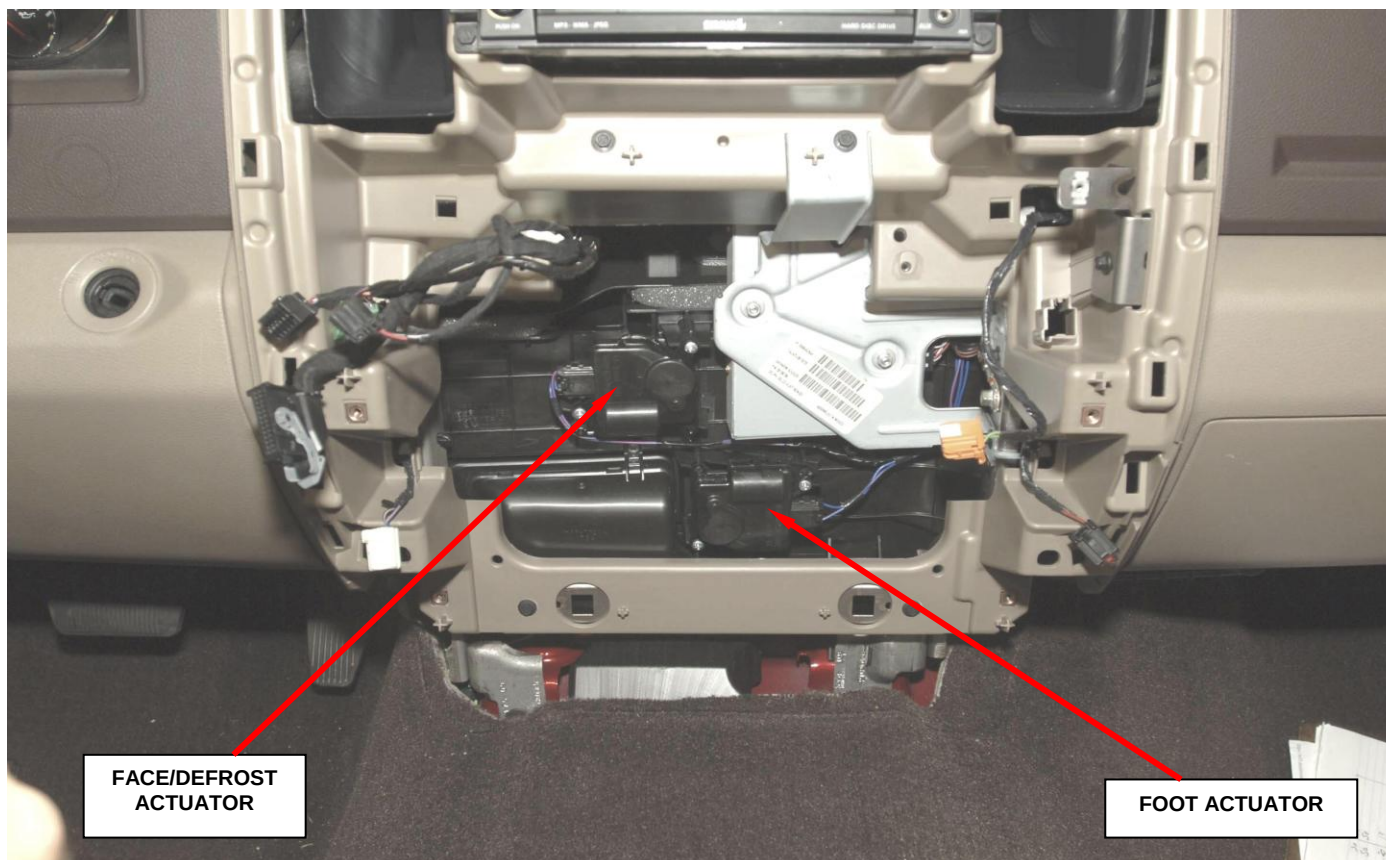

Figure 3 – Face/Defrost Actuator Location
4. Disconnect the face/defrost actuator electrical connector (Figure 3).
6. Remove and discard the original face/defrost actuator (Figure 3).